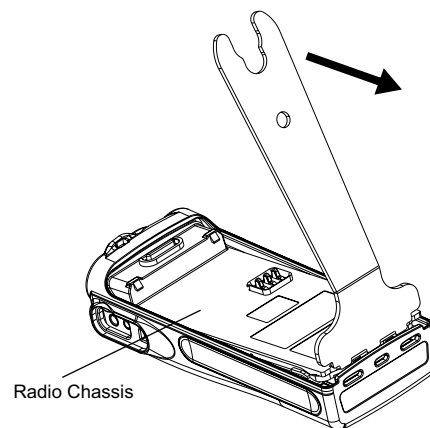

Figure 4-3 Chassis Removal
5. Separate the chassis from the internal electronics front cover assembly by using the chassis opener (part number 6680702Z01). Place the broad side of the opener into the slots located at the base of the radio (see Figure 4-3). Press the handle of the opener downwards. This pressing action forces the thin inner plastic wall toward the base of the radio, releasing the two chassis base tabs.